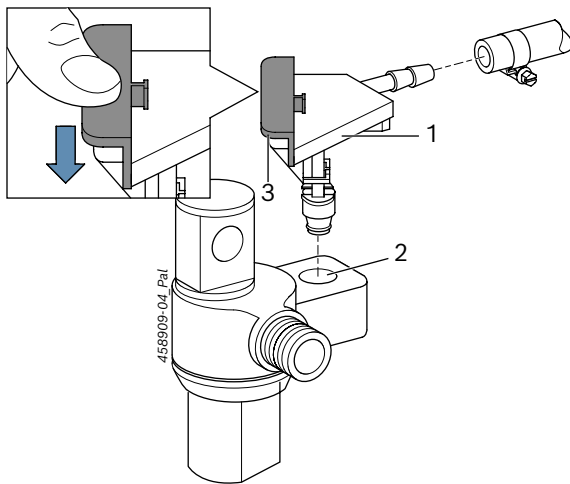

Fig. 4: Return adapter 1 683 356 138
The return adapter 1 683 356 138 (Fig. 4, item 1) connects the return line of the Delphi CRI (Fig. 4, item 2) to the return quantity test connection on the EPS 200 / EPS 205 using the hose assemblies 1 680 712 249 and 1 680 712 289.
i Secure the return adapter by pressing down the tab (Fig. 4, item 3). To remove it, pull the tab up and remove the return adapter from the return connection.